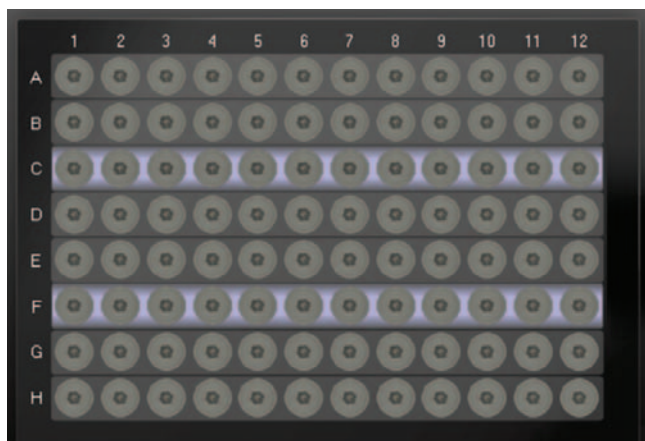

Figure 12: Label of tube positions
1. Place a rack with open tubes onto the tube rack position such that A1 of the tube rack is in accordance with A1 position on the display (see Figure 12: Label of tube positions). To change A1 position, see chapter 3.1.6 Settings options.
1. Place a tube rack onto the tube rack such that A1 of the tube rack is in accordance with A1 position on the display (see Figure 12: Label of tube positions).